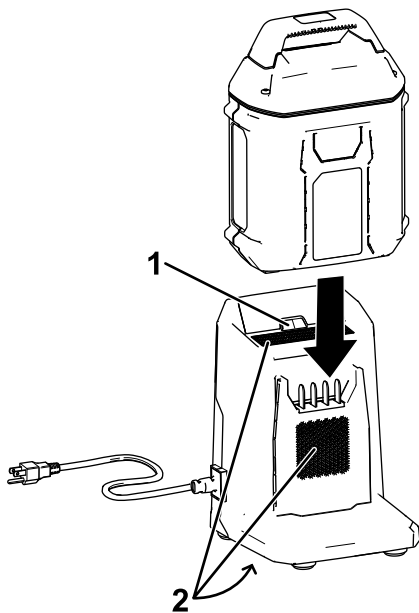

Figure 14
4. Slide the battery pack into the charger until it is fully seated (Figure 14).